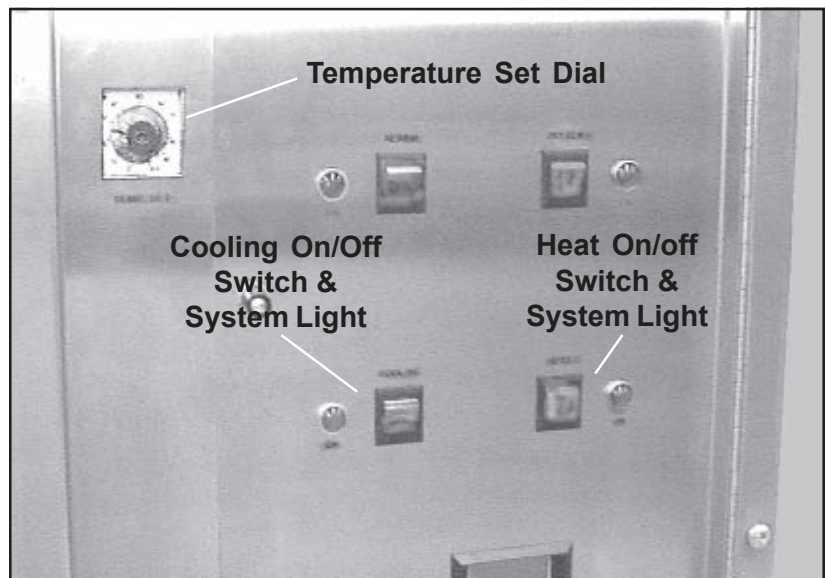

Figure 42. Heat and Cooling Controls
2. Push the cooling on/off switch (Figure 42) to On. The amber light in the switch comes on.